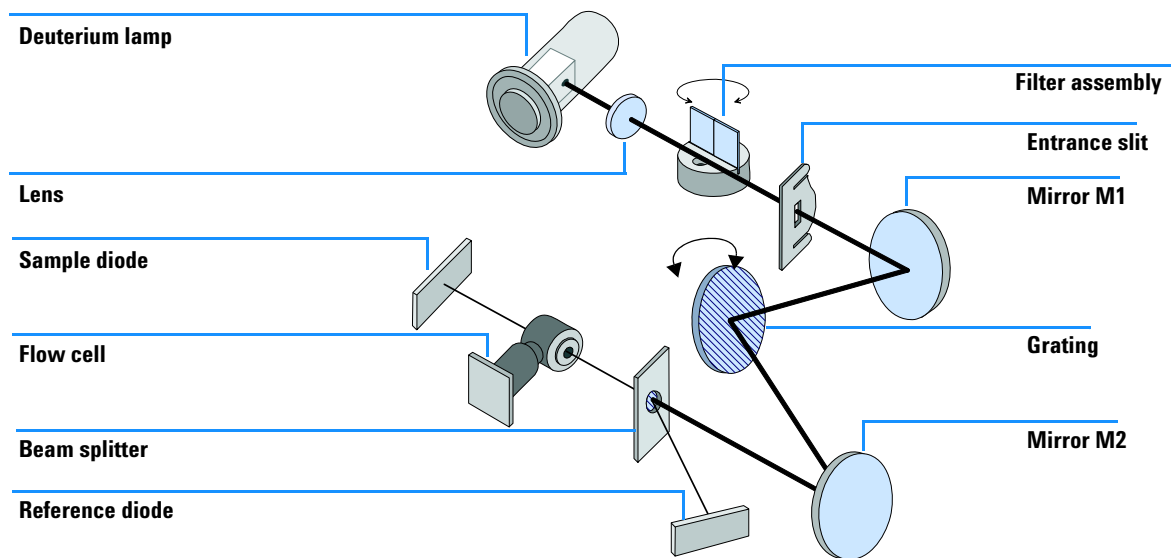

Figure 1 Optical Path of the Variable Wavelength Detector
The optical system of the detector is shown in Figure 1. Its radiation source is a deuterium-arc discharge lamp for the ultraviolet (UV) wavelength range from 190 to 600 nm. The light beam from the deuterium lamp passes through a lens, a filter assembly (in position none, cut-off or holmium oxide), an entrance slit, a spherical mirror (M1), a grating, a second spherical mirror (M2), a beam splitter, and finally through a flow cell to the sample diode. The beam through the flow cell is absorbed depending on the solutions in the cell, in which UV absorption takes place, and the intensity is converted to an electrical signal by means of the sample photodiode. Part of the light is directed to the reference photodiode by the beam splitter to obtain a reference signal for compensation of intensity fluctuation of the light source. A slit in front of the reference photodiode cuts out light of the sample bandwidth. Wavelength selection is made by rotating the grating, which is driven directly by a stepper motor. This configuration allows fast change of the wavelength. The cutoff filter is moved into the lightpath above 370 nm to reduce higher order light.